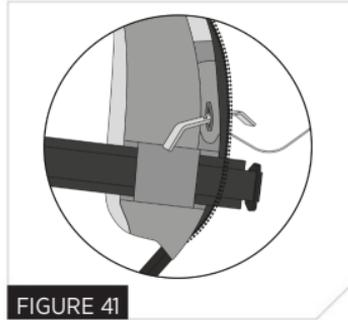

FIGURE 41
17. Thread the manual inflation handle through the stitched buttonhole on the side of the cover (Fig. 41).